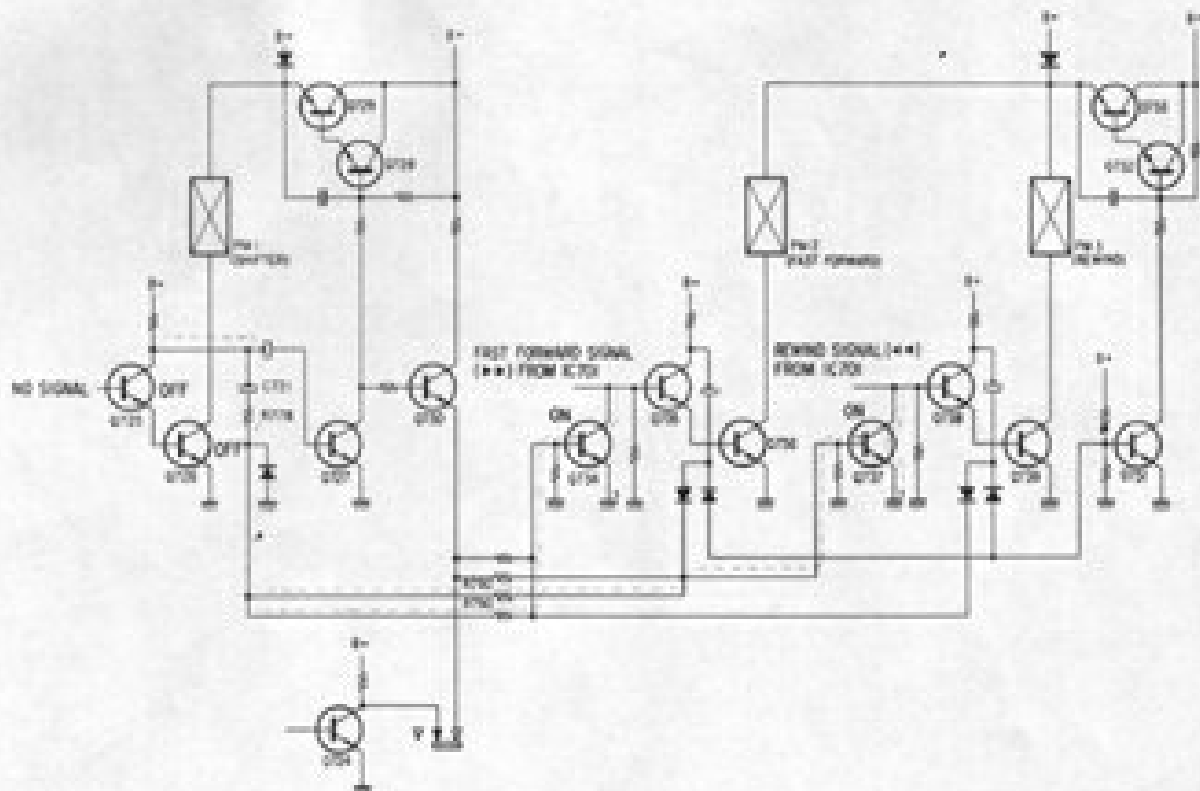

Fig. 1-7 Record Mode - Fast Forward or Rewind Mode
5. Record mode = fast forward or rewind mode (via temporary STOP mode) (See Fig. 1-7)